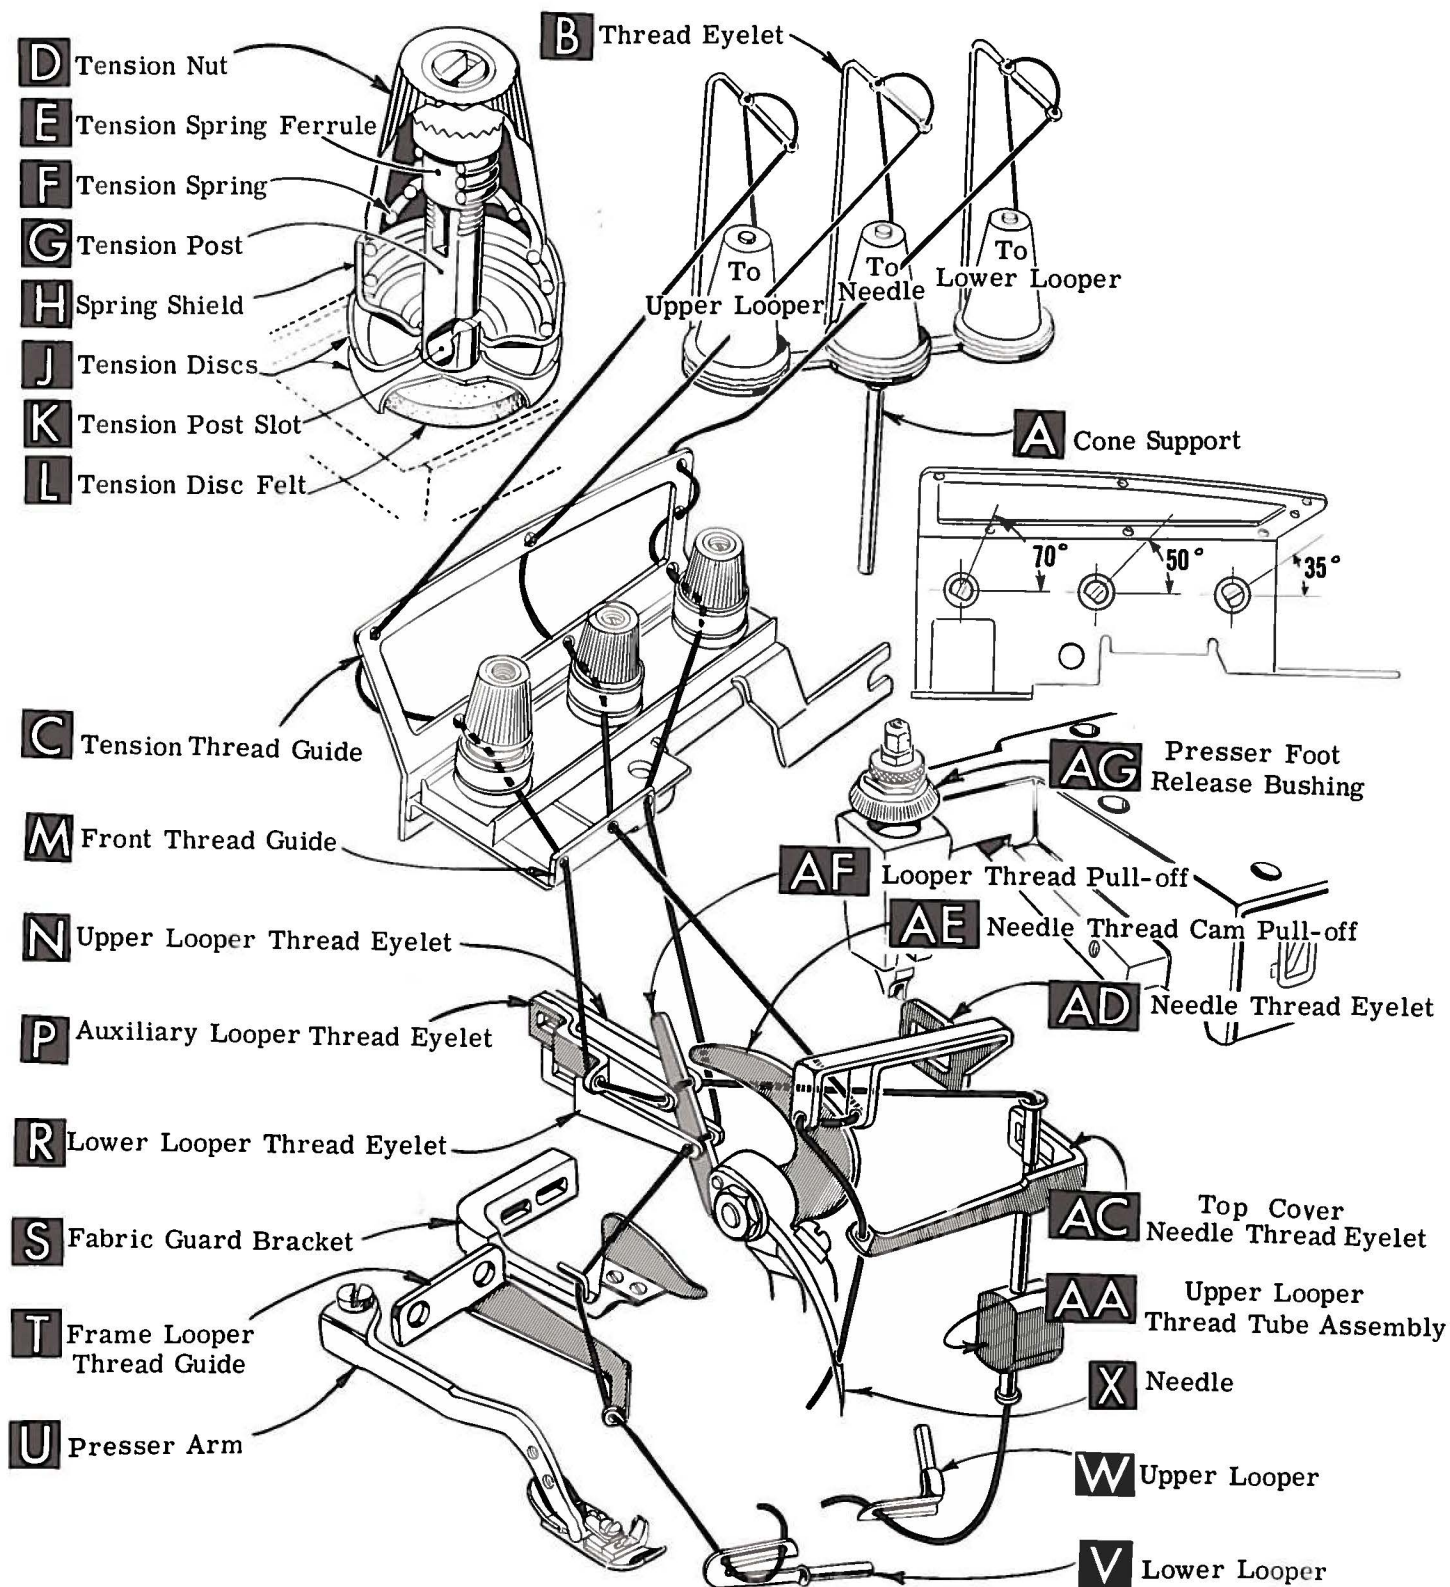

Fig. 1
Release pressure on presser foot by turning presser foot release bushing (AG, Fig. 1) and swing presser arm (U) out of position. Turn handwheel in operating direction until needle is at its lowest point of travel. Using hexagonal socket wrench No. 21388 AU, furnished with machine, loosen needle clamp nut about 1/4 turn. Again turn handwheel until needle is at high position; withdraw needle.
After thread comes from cones on cone support (A, Fig. 1), it is brought up through back hole of thread eyelet (B), then down through the front hole of thread eyelet. Next it is threaded through the upper holes of tension thread guide (C) from front to back and then through the lower holes from back to front. It should be noted that the lower looper thread is threaded through the tension thread guide (C), first through the upper hole back to front, second through the middle hole front to back and third through the lower hole back to front. All threads then continue between the tension discs (J), through tension post slot (K) in tension post (G) and on through front thread guide (M).
Refer to threading diagram (Fig. 1) on page 5 for the manner in which these machines are threaded.